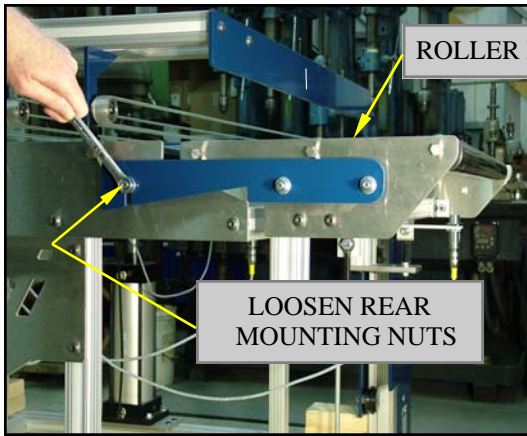

Figure 6
- A. Loosen rear mounting nuts on the roller discharge unit. (Figure 6)